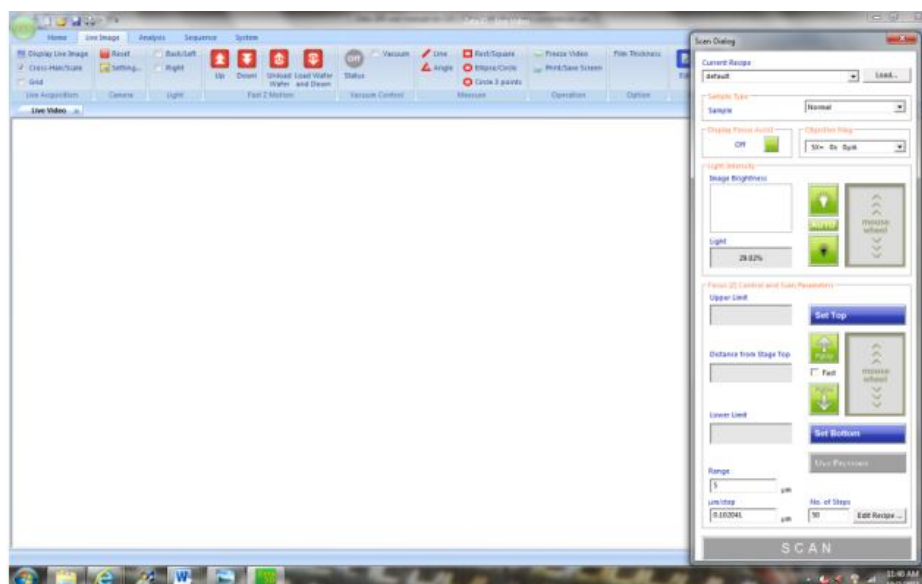

Figure 4. Screen Shot of initial software screen
5. After logging into the software, a window with the various options as shown in figure 4 will be displayed.